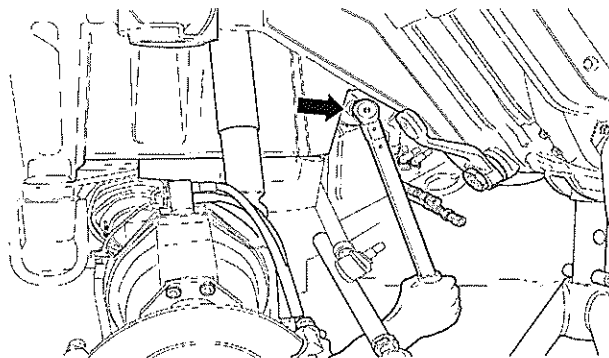

Fig 3 Panhard rod location
- 4.16 Loosen but do not remove hexagon nut on Panhard rod (see Fig 3).